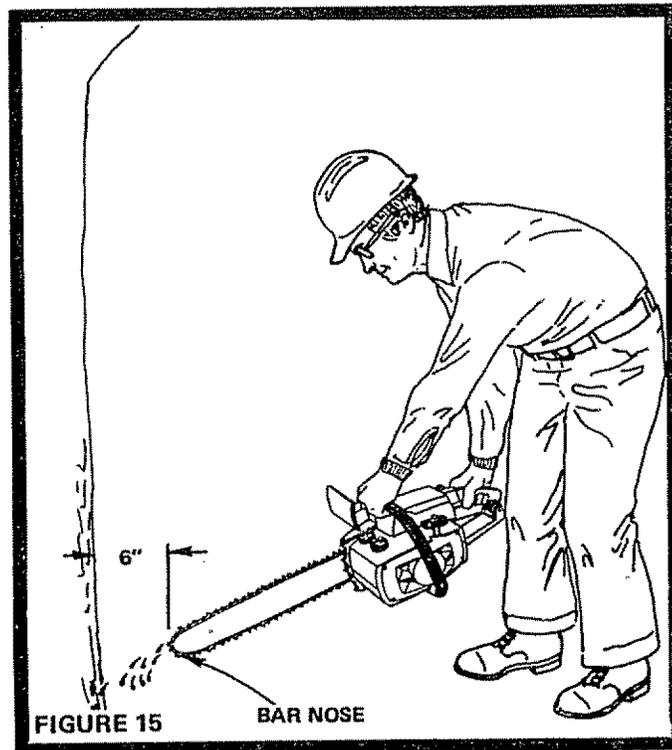

FIGURE 15
- ✓ ARE THE CHAIN AND BAR GETTING ENOUGH OIL? Throttle up to cutting speed for a few seconds holding Bar Nose approximately six inches from test surface. Enough oil should be thrown from chain to mark test surface (Fig. 15). Open Automatic Oiler Metering Knob farther if necessary.